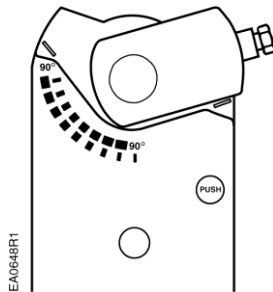

Figure 17.
If you want to reverse the direction of rotation, wires 6 and 7 (Y1 and Y2) may be interchanged. Reverse the position indicator so that the counterclockwise 0 to 90 scale is visible. See Figure 17.
- a. Insert the shaft adapter to the right as close as possible to the raised stop. See Figure 17.